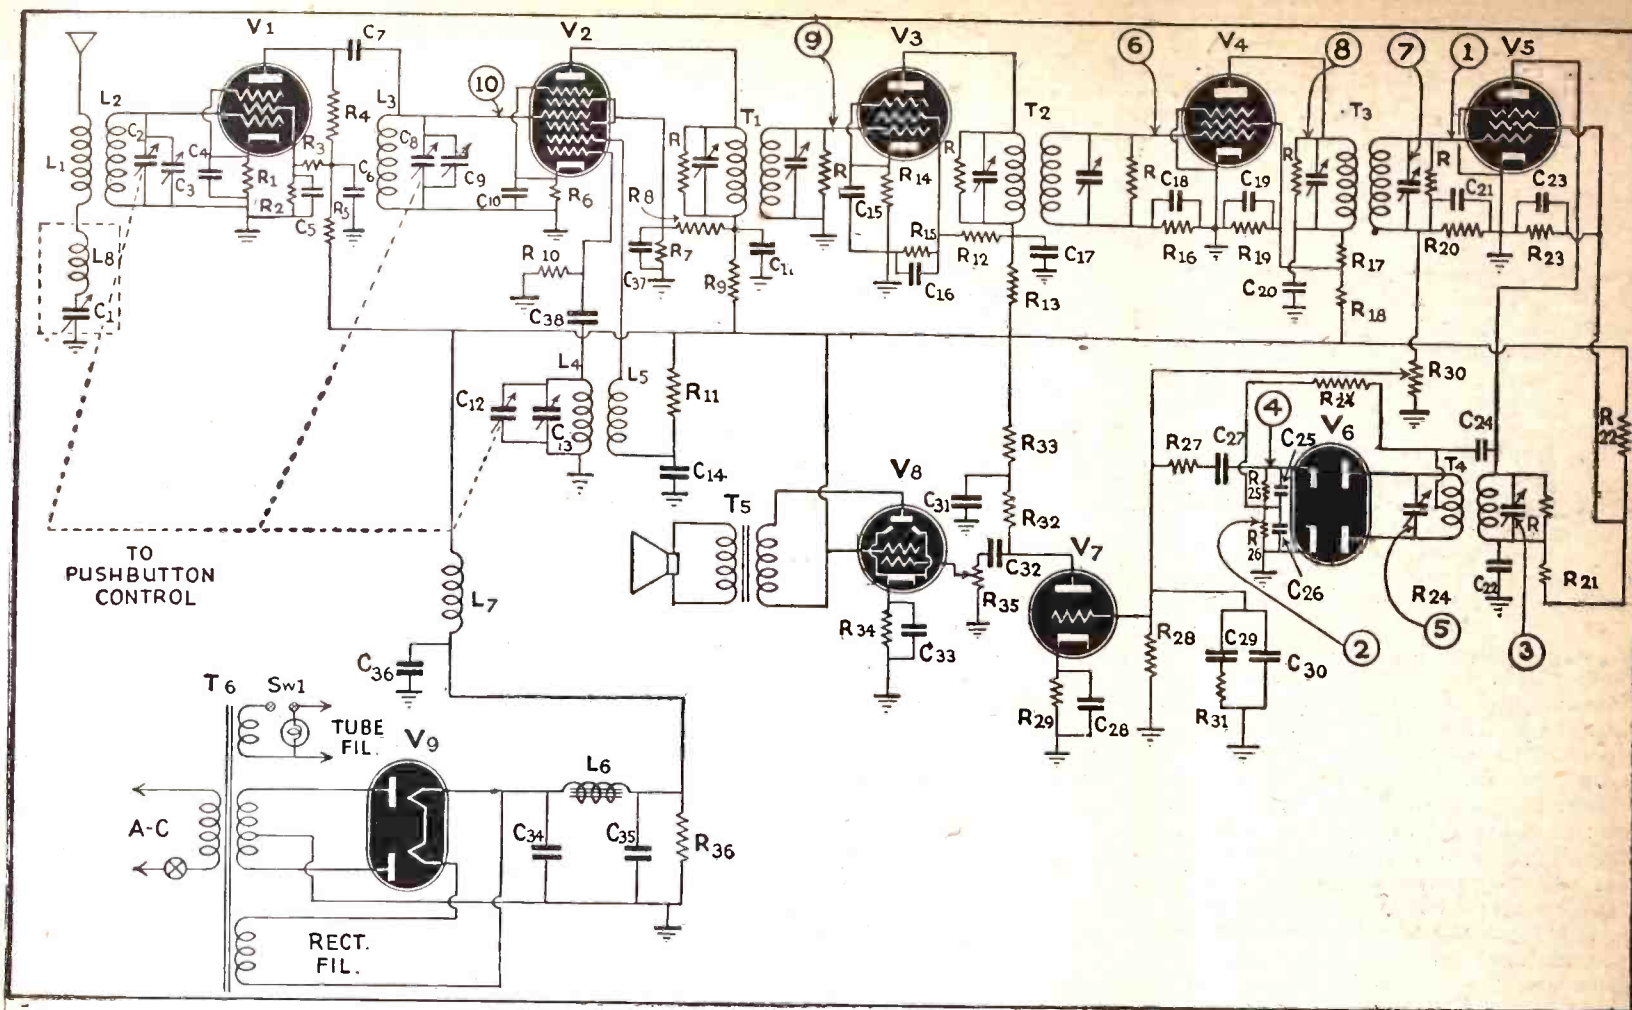

Fig. 1—The complete schematic diagram of a standard FM receiver. Several points referred to in the text are in numbered circles.
Therefore, the system of signal substitution has found wide application among some trouble shooters. We know that each stage of any piece of equipment has a definite function. Furthermore, each stage handles a definite type of signal which is of a particular frequency (or band of frequencies), amplitude and wave form. The audio amplifier stages handle the frequencies of the audio spectrum, and the I.F. stage amplifies the intermediate frequency only. If the receiver, blocked in Fig. 1, is a broadcast receiver, and its intermediate frequency is 465 Kc., the R.F. amplifier will be tunable and will cover from 550 to 1700 Kc. The same goes for the mixer input circuit. The oscillator will generate a radio frequency signal and will be tunable from 1015 Kc. to 2165 Kc. The I.F. amplifier peaks at 465 Kc.
In Fig. 1 is shown the schematic of a conventional FM receiver including the circuits that were discussed in the preceding article. We will assume that the I.F. of this receiver is 3.5 Mc., and that it is push-button tuned. We will follow through all of the adjustment and maintenance steps in such a manner as to make them applicable to any other FM receiver. An itemized list of the parts used in this receiver is given in chart 1. The use of each component part in its respective circuit is included for the convenience of the reader.
- Connect "hot" lead of signal generator to grid of 2nd limiter V5 through a .01 ufd. paper condenser. (Point 1 on Fig. 1.)
- Connect the "hot" lead of the V.T. voltmeter to the negative side of R26 (point 2 on Fig. 1) and the "cold" lead to ground.
- Disconnect the "hot" lead of the V.T. voltmeter from point 2 and connect it to point 4 on Fig. 1. You will now be reading the total D.C. voltage across R25 and R26.
- Adjust the secondary trimmer (5) of T4 for zero voltage indication on the V.T. voltmeter.